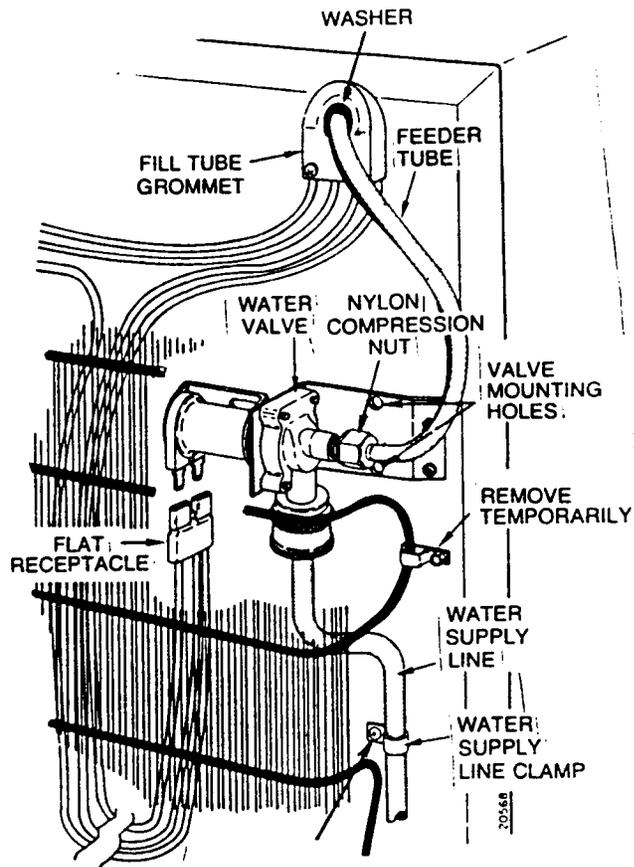

Figure 11 Water valve and feeder tube hook-up
1. Temporarily remove the two upper right condenser mounting screws (see figure 11). Spring the top of the condenser out an inch or two to allow working room.
3. Locate the flat receptacle on the ice maker harness. Connect it to the water valve (see figure 11).
4. Attach the water valve to the cabinet back with 2 type 'D' screws (see figure 11).
6. Fit the curved end of the feeder tube into the water valve as far as it will go and tighten the nylon compression nut (see figure 11). Slide the black washer over the straight end of the feeder tube up to the raised stops.
7. Wet the end of the feeder tube and push it into the fill tube grommet (see figure 11).
8. Loosely attach the water supply line clamp with a type 'A' screw (see figure 11).